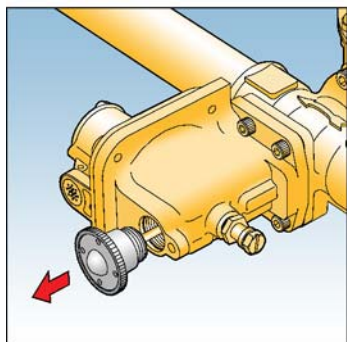

Fig. 8
- 17) Re-cock OPSS device by unscrewing reset spindle end cap and firmly pull. Hold in this position until the outlet pipework is fully pressurised, then release reset spindle end cap gently. Re-screw reset spindle end cap into body. See Fig. 8.
- 25) Re-cock UPSS device by unscrewing reset spindle end cap and firmly pull. Hold in this position until the outlet pipework is fully pressurised, then release reset spindle end cap gently. Re-screw reset spindle end cap into body. See Fig. 8.